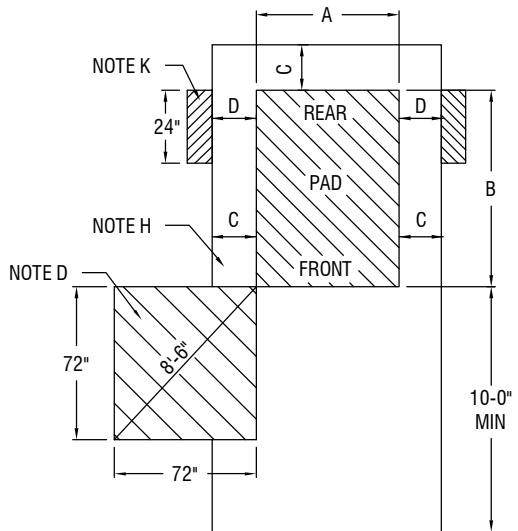

FIGURE 1 - CLEARANCE DIMENSIONS
- D. A MINIMUM 72-INCH X 72-INCH X 72-INCH CLEAR WORKING SPACE SHALL BE PROVIDED FOR HOTSTICK TOOL OPERATION. SEE FIGURE 1. PREFERABLY STREETLIGHT POLES SHOULD BE INSTALLED OUTSIDE OF THIS WORKING SPACE, BUT IF FIELD CONDITIONS PRELUDE THIS, THEN STREET LIGHT POLES MAY BE INSTALLED IN THIS SPACE.